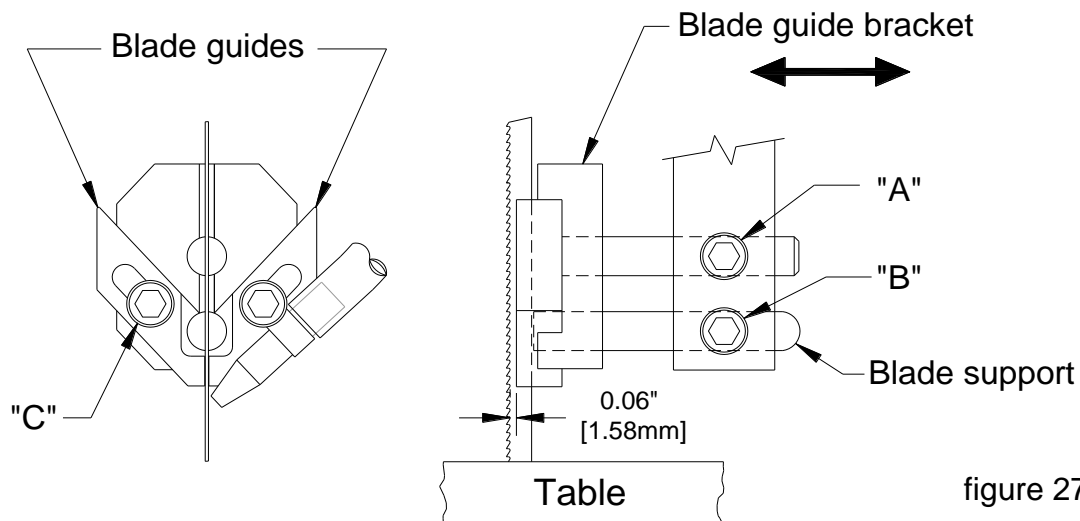

figure 27
4. Slide the blade guide bracket so the blade guides are approximately 0.06" (1.58mm) behind the tooth gullets as shown in (fig. 27). Tighten socket cap screw "A" only.